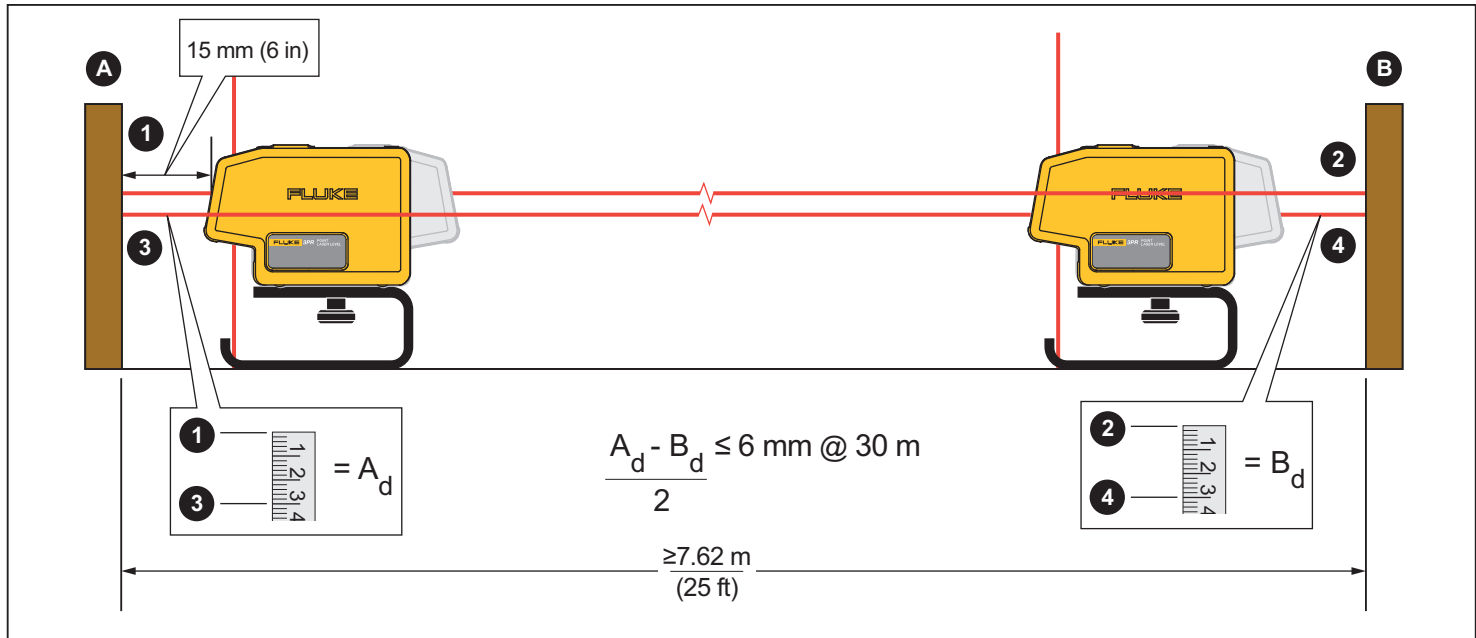

Figure 5. Level Accuracy
1. Find a horizontal site that is almost level, preferably a concrete slab, that is ≥ 7.62 m (25 ft) wide with two opposing walls to use as targets. You can also use scrap wood as targets. See Figure 5.